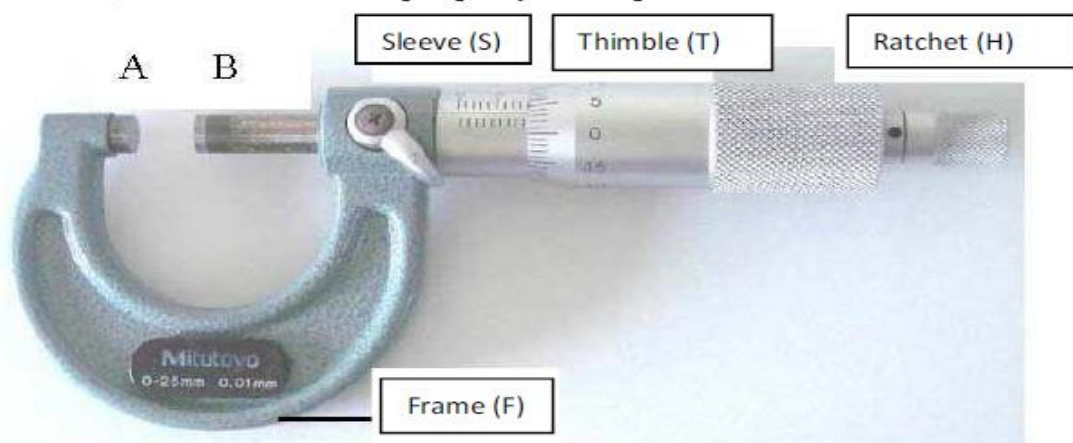

Figure 4
Figure 4 shows a micrometer screw, where A is an anvil fixed to the frame (F), and the spindle (B) channels through F and the sleeve (S) to connect to a revolution thimble (T) and a ratchet (H). S is marked with precise divisions, and the periphery of T is graduated into 50 equal parts. For one revolution of T, it moves forward or backward half a division on the sleeve, that is, 0.05 cm (metric micrometer screw). Therefore, one division on the periphery of T equals $0.05/50 = 0.001$ cm